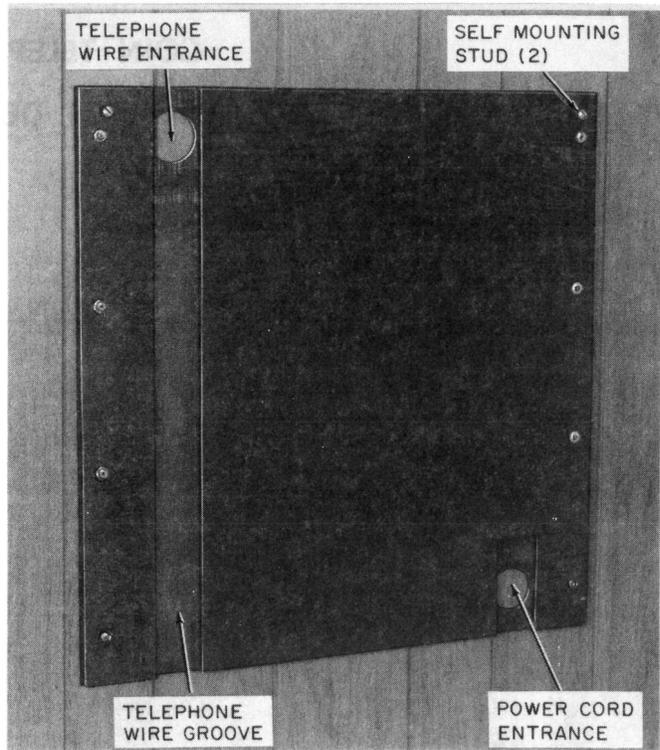

Fig. 4—Wooden Backboard For KS-21571 Shelf
- Wooden backboard (Fig. 4) (for mounting shelf to wall)
**2.04** The wooden backboard (Fig. 4) is designed with two 2-inch diameter holes. One in upper left corner for telephone wire entrance and one in lower right corner for power cord. The grooves are provided for wire runs.